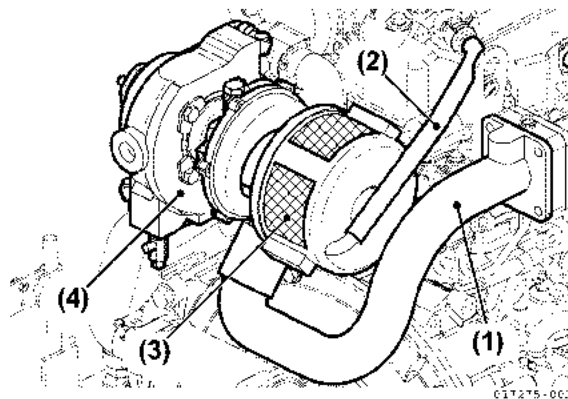

**Figure 5-17**
17. Remove the mixing elbow from the exhaust manifold for 3JH5E and 4JH5E (**Figure 5-16**) or from the turbocharger for 4JH4-TE and 4JH4-HTE (**Figure 5-17**).